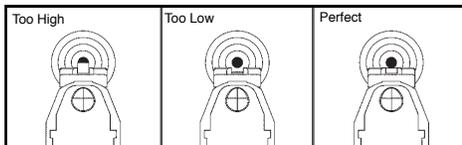

Fig. 8
- The air pistol is correctly aimed when the front sight blade is positioned exactly in the notch of the rear sight. The top of the front sight blade should be even with the top of the notch in the rear sight. The bullseye should appear to rest on the top of the front sight (See Fig. 8).